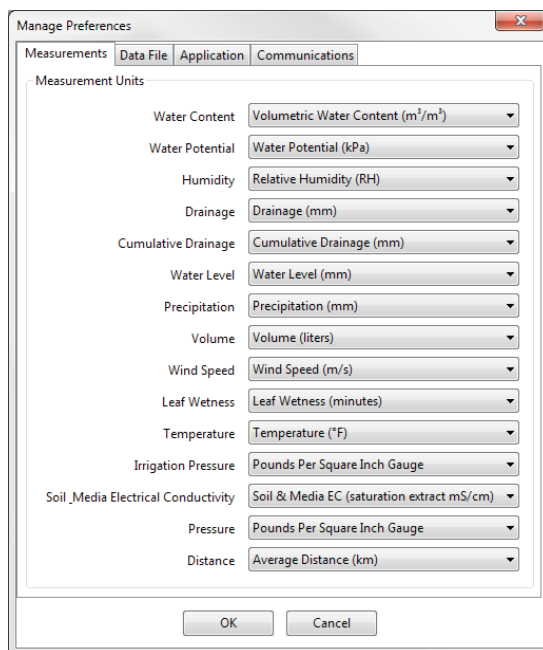

Figure 13 Measurements tab
- Measurements tab (Figure 13):